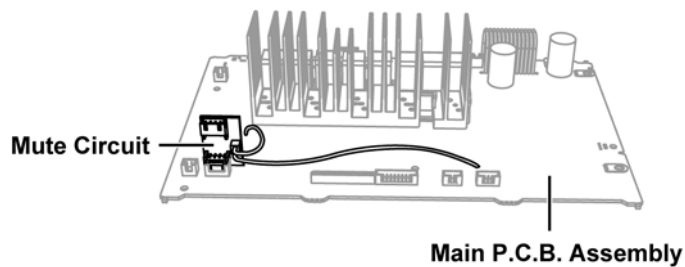

Fig.2-1
- For first lot of this model, there is additional Mute circuit (refer to Fig.2-1) to the Main P.C.B. Assembly.